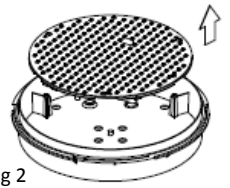

Fig 2
- Adjust the position of the gear tray to align the hole in the keyhole slots with the retaining screws, and remove the gear tray from the base – Fig 2